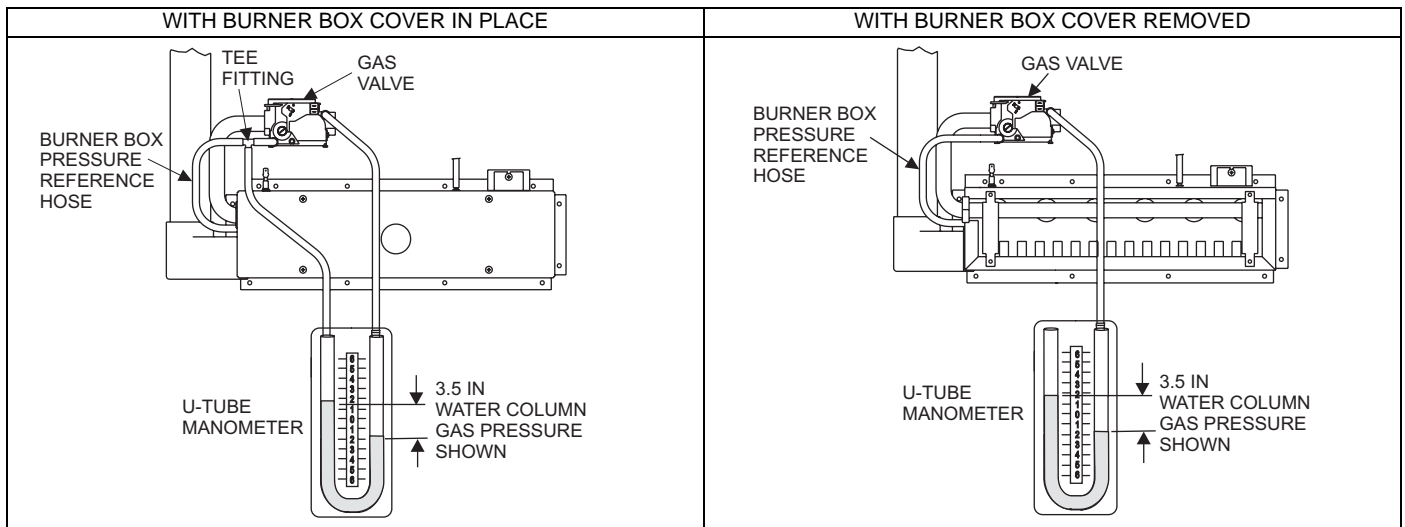

FIGURE 36: Reading Gas Pressure
- E. Use the 5/16" (0.8 cm x 1/8" (0.3 cm) reducing coupling and a 4" (10.2 cm) piece of 1/8" (0.3 cm) tubing to connect the positive side of the manometer to the gas valve pressure reference port. Refer to Figure 36 for connection details.
Remove the screws securing the burner box front cover plate. Remove the cover. The gasket and may stick in place. Connect the positive side of the manometer to the gas valve as described in E above. There will be no second connection to the manometer, as it will reference atmospheric pressure. Refer to Figure 36 for connection details.